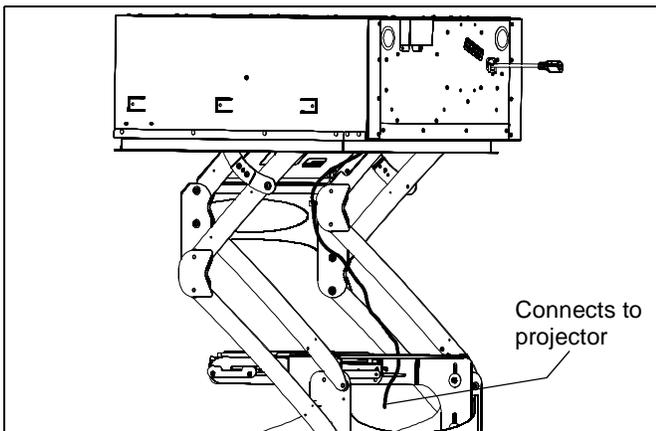

Figure 17
2. Route and secure electrical and video cables using supplied mounting tabs (F) and cable ties (C). (See Figure 17)